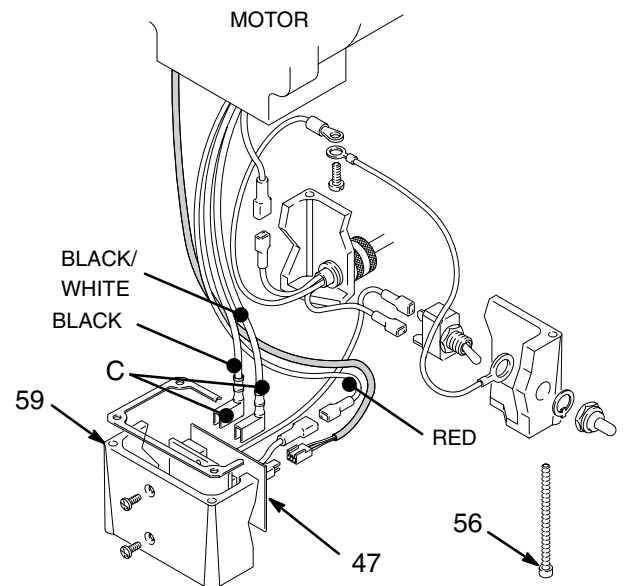

Fig. 13
Remove the junction box screws (56). Lower the junction box. Disconnect the two leads (C) from the motor to the board (47). See Fig. 13.